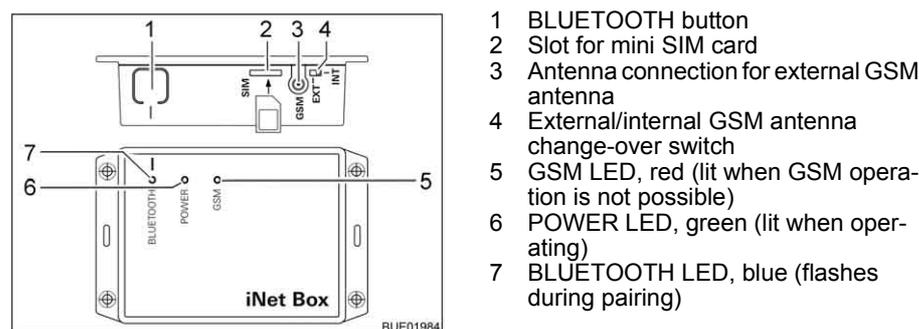

Fig. 166 Truma iNet-Box
- Press the BLUETOOTH button (Fig. 166,1) on the iNet-Box for 1 second. The Truma iNet-Box will be visible in the mobile terminal for approx. 2 minutes (name: "Truma iNet-Box"). During this period, the blue BLUETOOTH LED (Fig. 166,7) will be flashing.
- Carefully insert the mini SIM card with own telephone number and sufficient credit into the slot (Fig. 166,2) of the Truma iNet-Box as shown until it engages. The red GSM LED (Fig. 166,5) must be flashing continuously. If the red LED goes out after 20 seconds: check mini SIM card.